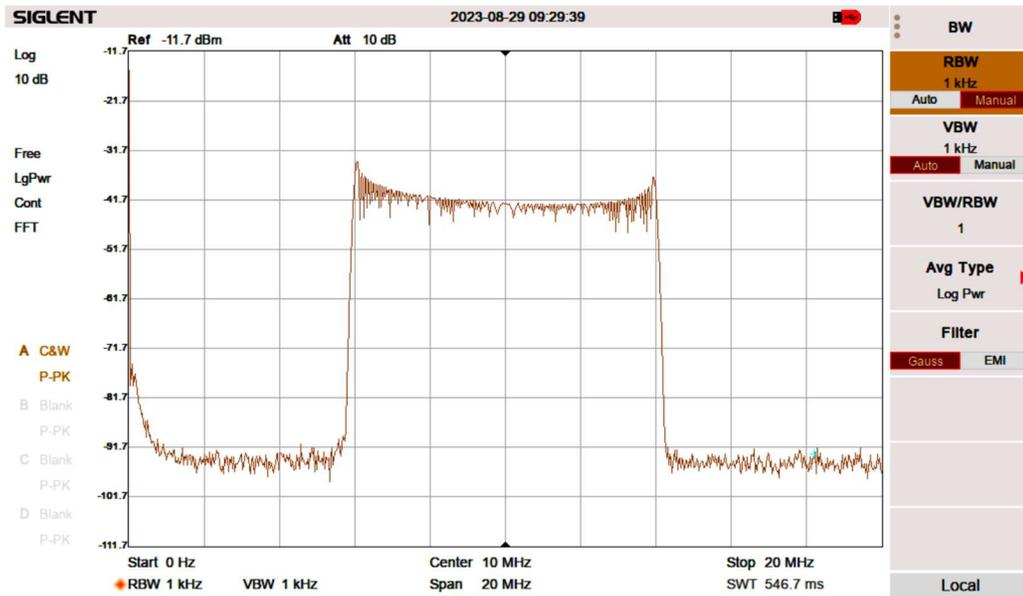

Figure 11. A spectrum resulting from frequency modulating a 10 MHz carrier with  $FMFreq = 10$  kHz and  $Diviat = 4$  MHz.
Now turn  $\Delta f$  higher and see what happens. The sideband frequencies are still multiples of  $f_m$  from the carrier, but the number of sidebands goes up as  $\Delta f$  goes up. If you switch the SA to a linear scale (in amplitude), you will see that the number of significant sidebands on each side of the carrier is roughly equal to  $h$ . Try  $\Delta f$  equal to 100 kHz and you can count the number of sidebands. At 1 MHz the sidebands start to run together, so zoom out to see the envelope. Set  $\Delta f$  to 4 MHz ( $h = 40$ ) and you see a plateau that runs from  $(10-4) = 6$  MHz to  $(10+4) = 14$  MHz, as illustrated in Figure 11.
**Exercise 9.** As usual, get some practice working with the hardware by reproducing Figure 11 and adding it to your e-notebook. At this point  $h$  is very large, and what you see is mostly the carrier signal being essentially swept from  $f_0 - \Delta f$  to  $f_0 + \Delta f$ . When you move a frequency back and forth sinusoidally like this, your swing spends more time at the endpoints than in the middle. Thus, the broad plateau is higher at the endpoints than at the middle.